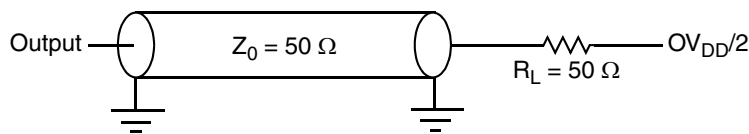

Figure 29. AC Test Load for the JTAG Interface
- All outputs are measured from the midpoint voltage of the falling/rising edge of t_{TCLK} to the midpoint of the signal in question. The output timings are measured at the pins. All output timings assume a purely resistive 50-Ω load (see Figure 29). Time-of-flight delays must be added for trace lengths, vias, and connectors in the system.
- The symbols used for timing specifications follow the pattern of $t_{(first\ two\ letters\ of\ functional\ block)(signal)(state)(reference)(state)}$ for inputs and $t_{(first\ two\ letters\ of\ functional\ block)(reference)(state)(signal)(state)}$ for outputs. For example, t_{JTDVXH} symbolizes JTAG device timing (JT) with respect to the time data input signals (D) reaching the valid state (V) relative to the t_{JTG} clock reference (K) going to the high (H) state or setup time. Also, t_{JTDXKH} symbolizes JTAG timing (JT) with respect to the time data input signals (D) went invalid (X) relative to the t_{JTG} clock reference (K) going to the high (H) state. Note that, in general, the clock reference symbol representation is based on three letters representing the clock of a particular functional. For rise and fall times, the latter convention is used with the appropriate letter: R (rise) or F (fall).
Figure 29 provides the AC test load for TDO and the boundary-scan outputs.